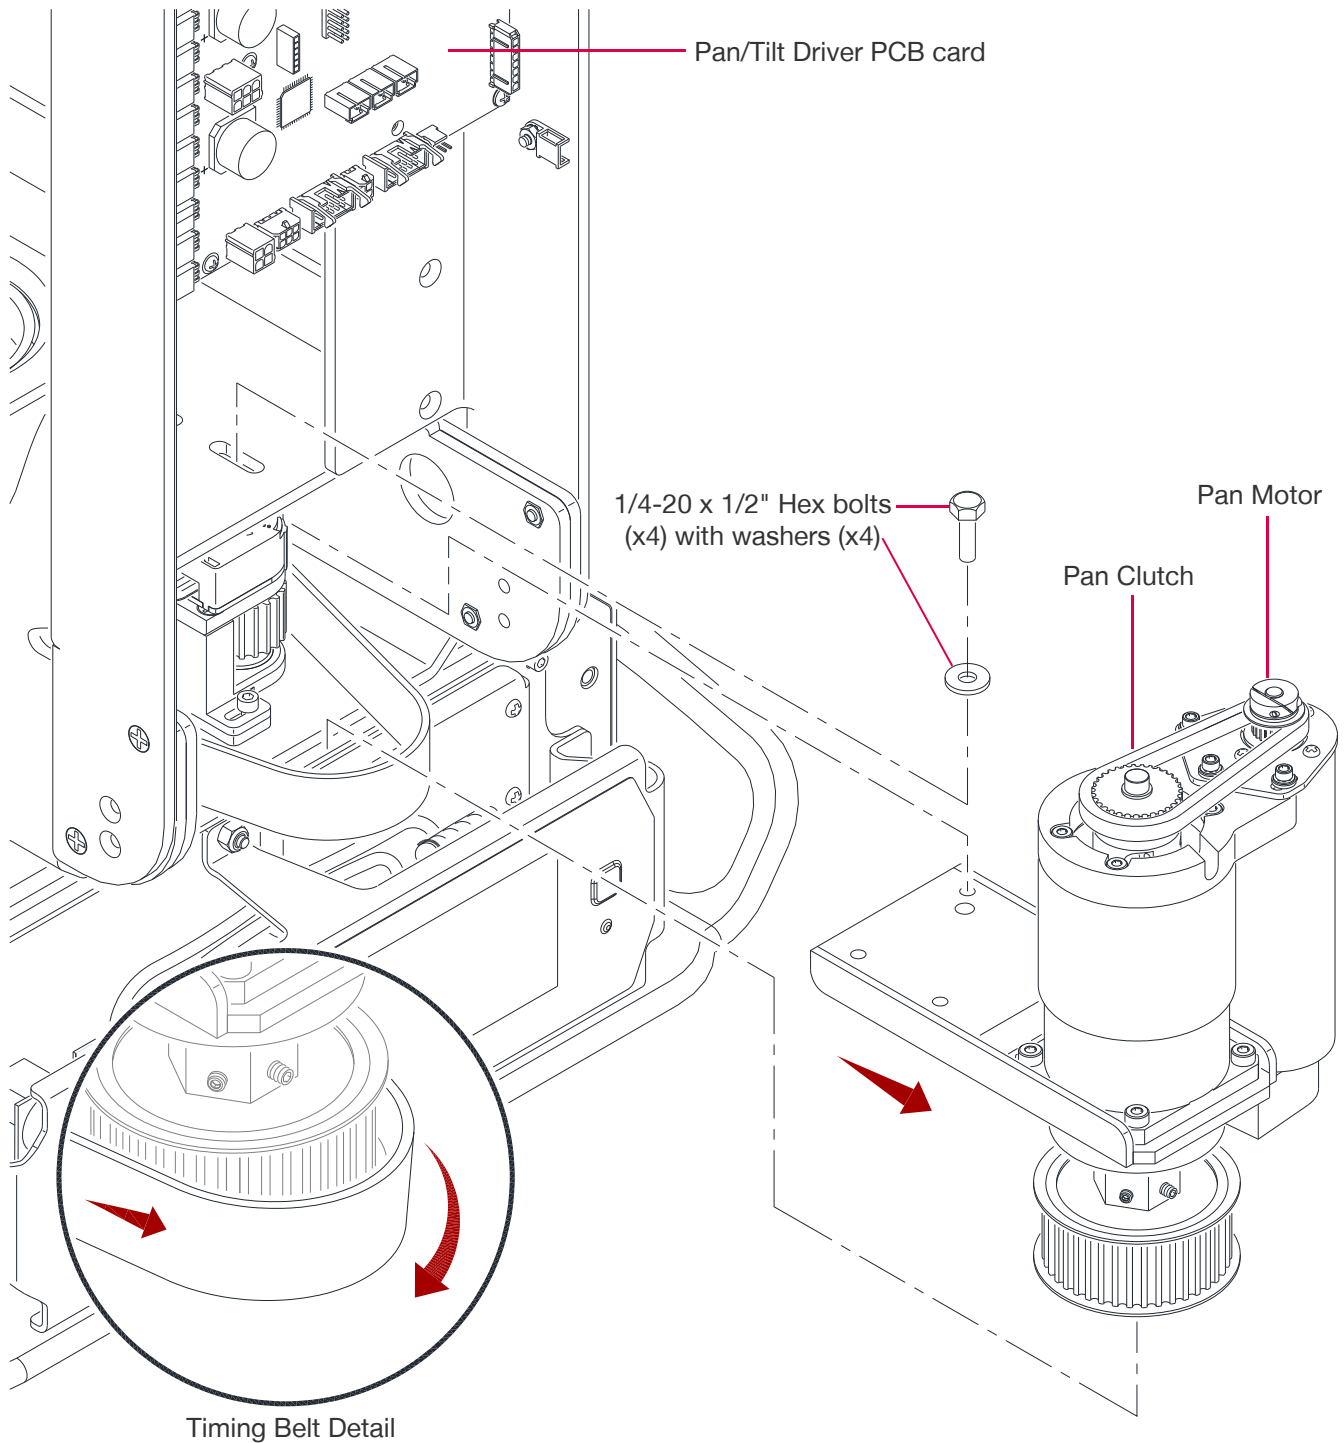

Figure 3-51: Removing the PAN Mechanism
- Step 3. Remove the Pan Shield. (Refer to **Figure 3-51**, "**Replacing the PAN Mechanism**" on page 98.)